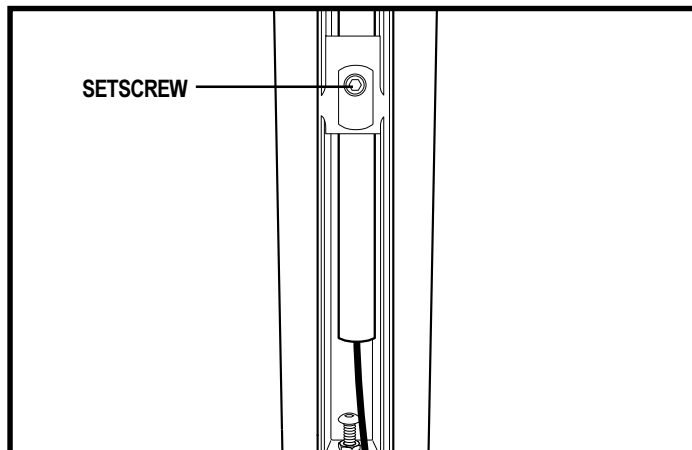

Figure 18. Underside of Armrest
5. Flip up the armrest and loosen the setscrew. See figure 18.